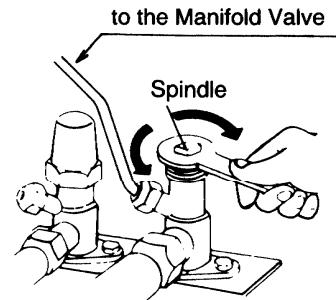

Fig. 11
- e) Remove the cap from the wide pipe service valve and turn the spindle gradually until it is back seated. Fig. 11.